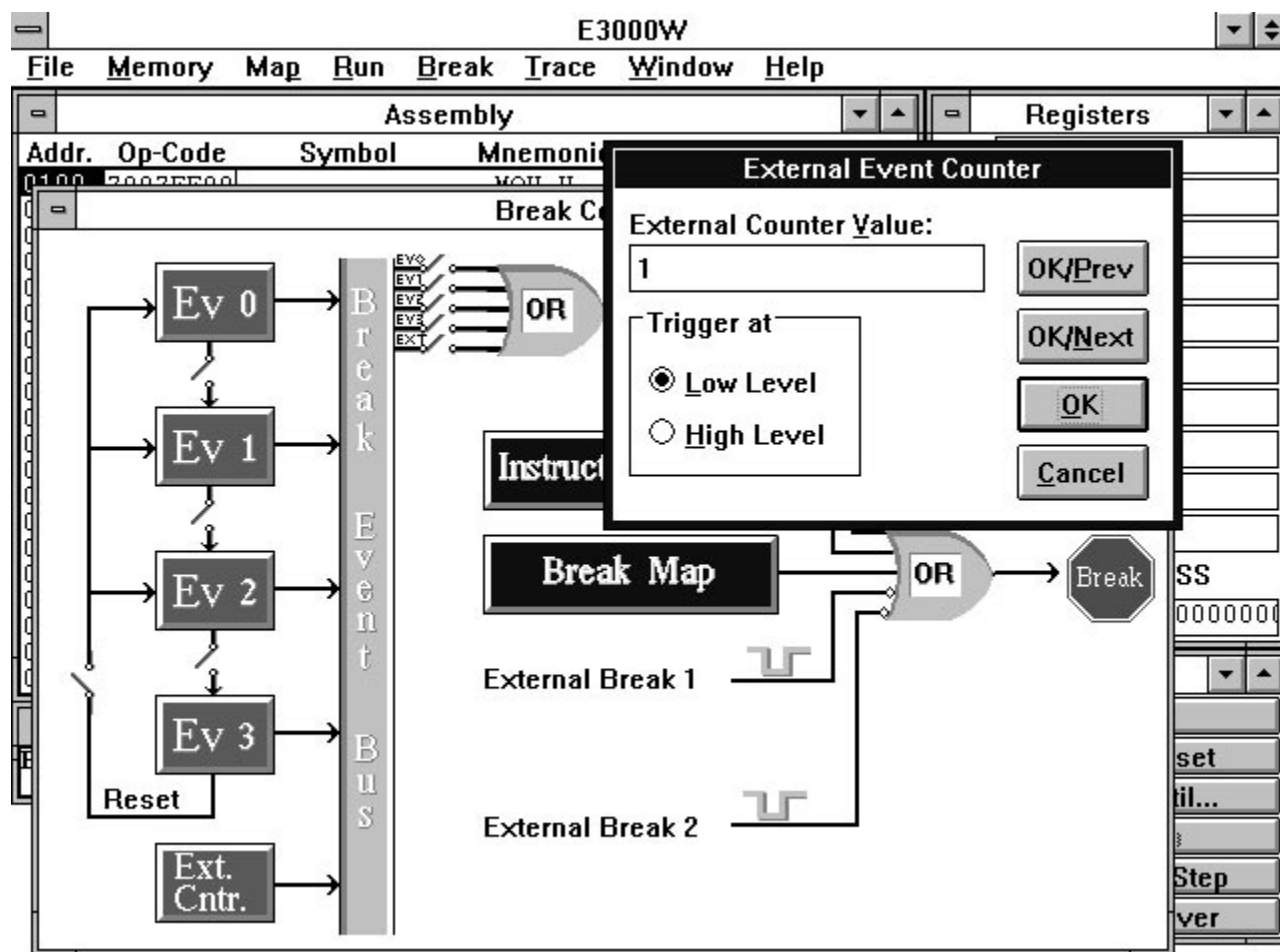

Figure 14.
*Counter* window will be displayed (see Figure 14). Specify the break condition in the *Trigger at* field as either a low level or a high level at the probe, the number of times this condition must occur before a break is issued in the *External Counter Value* field, and then click on the *OK* switch. A maximum count of 64K is possible.